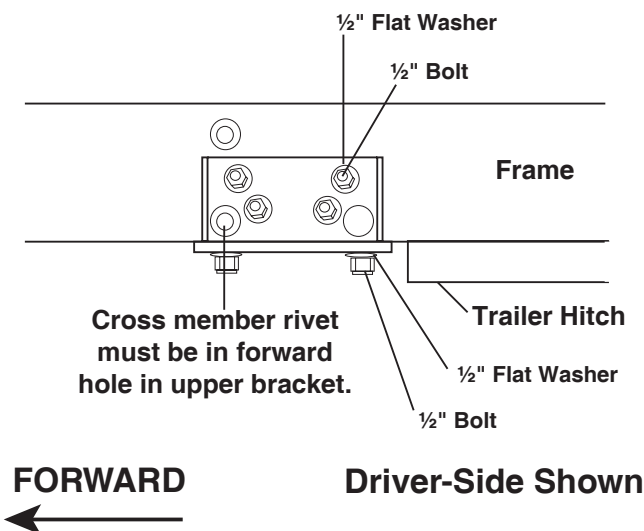

Figure 7
4. Drill the remaining holes through the side, if needed, using the bracket holes as a template. Attach the remaining  $\frac{1}{2}$ " hardware shown in Figure 7, starting with the bottom  $\frac{1}{2}$ " bolts. Torque all hardware to 107 ft.lbs.